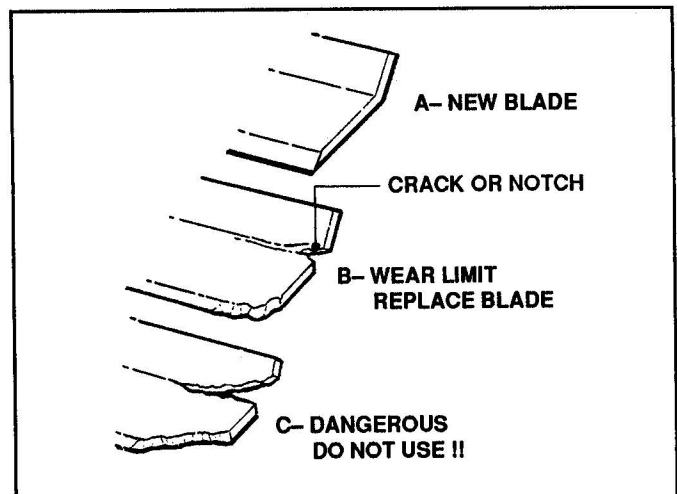

FIGURE 4.18
1. Inspect blade frequently for signs of excessive wear or damage. See Figure 4.18.
Never use a cutting blade that shows signs of excessive wear or damage on the Rear Engine Rider. Refer to Figure 4.18.
3. Inspect condition of blades. Refer to Figure 4.18.